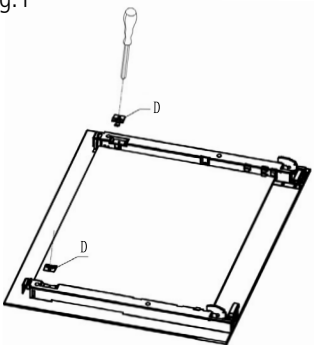

Fig.3
3. Loose clips (D) by unscrewing. (Fig.3)